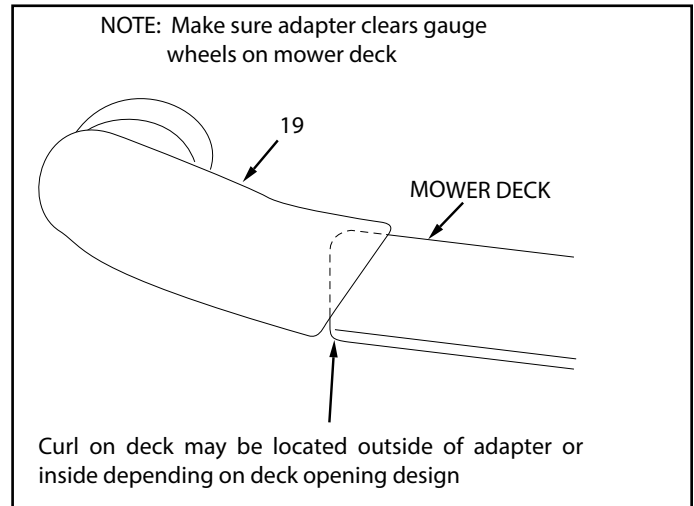

FIGURE 16
- Position the adapter (19) over the deck opening, and check for fit of cutout as shown in figure 16. Trim cutout, if necessary, to allow tilting of adapter, keeping the fit as close as possible for best vacuum suction.